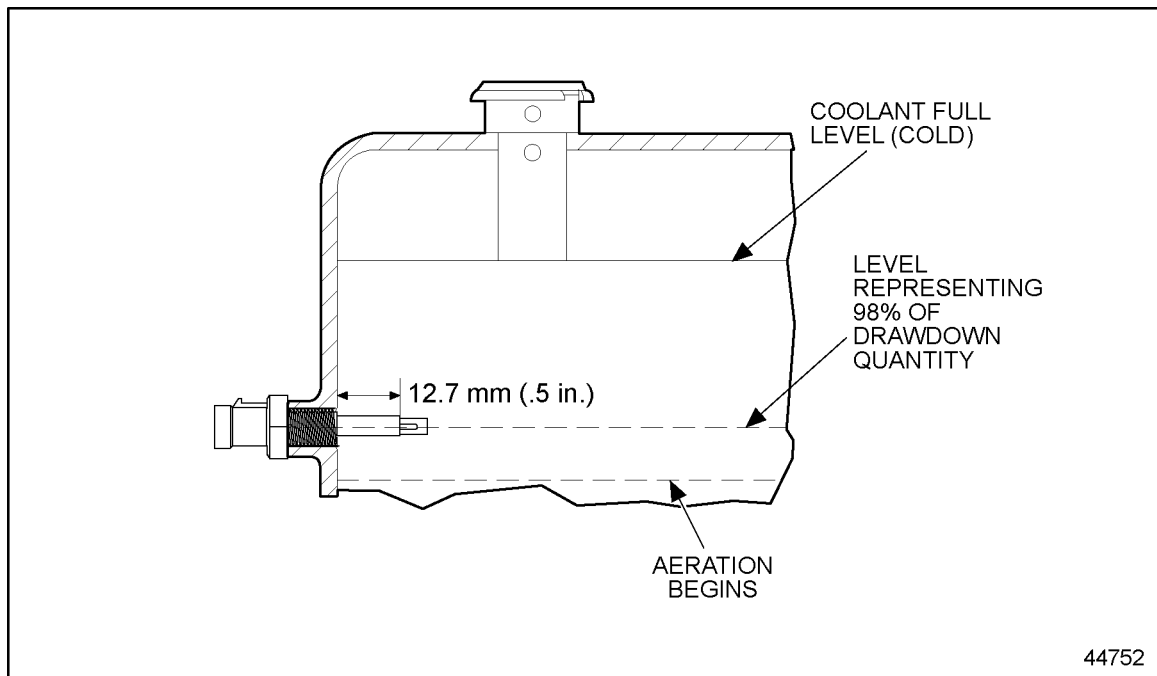

Figure 10-1 Engine Coolant Level Sensor Mounted in Radiator Top Tank
3. Check the coolant level in the reservoir. See Figure 10-1.